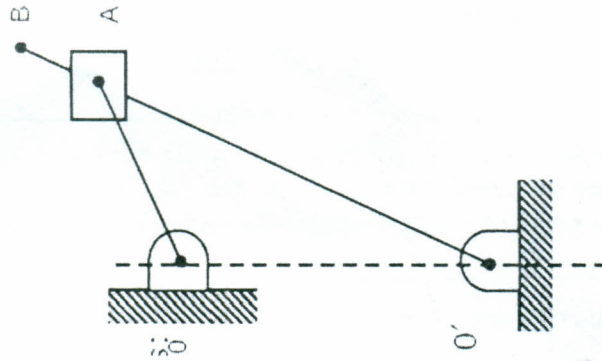

Figure 1
- b. **Figure 1** shows a quick return mechanism. The crank OA rotates clockwise uniformly. $OA = 2$ cm, $O'O = 4$ cm. calculate the ratio of time for forward motion to that for return motion.